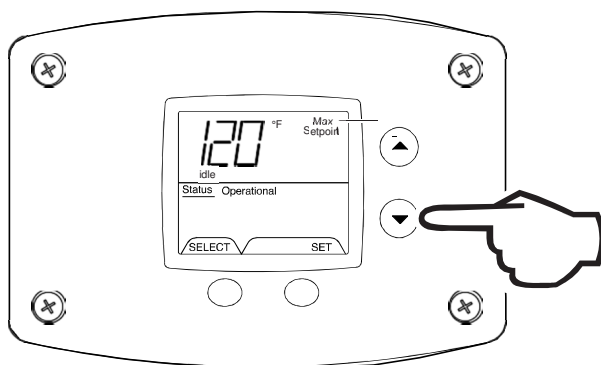

Fig. 44
3. Press the 'UP' or 'DOWN' buttons to change the maximum setpoint value. This will limit the maximum setpoint the user can select. Note: The maximum setpoint is approximately 82C (Fig. 44).